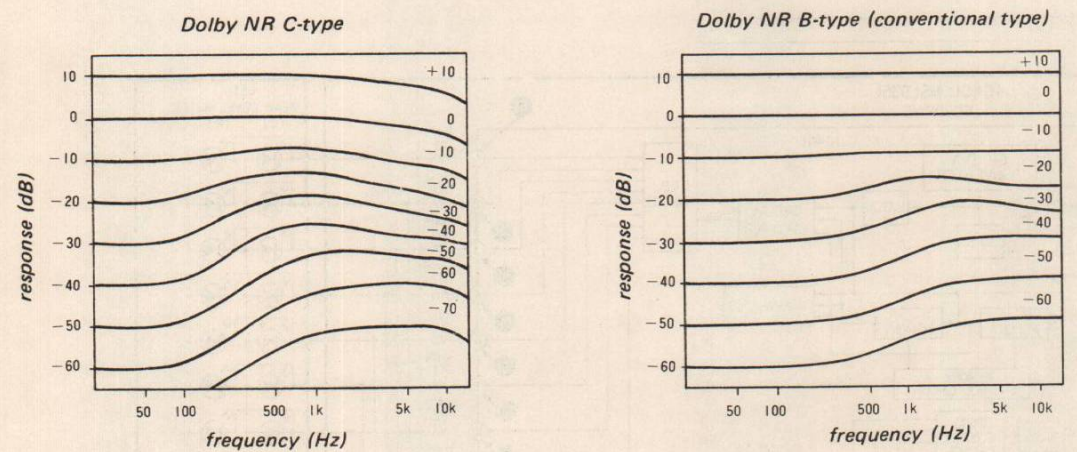

Fig. 1 Encoding characteristics
During recording, low-level high-frequency signals, which tend to be obscured by tape hiss, are boosted so that they are substantially higher in level than any tape noise. When these signals are played back, the level is lowered to the original input level, while simultaneously the level of any tape noise is reduced to the same extent. The Dolby NR B-type system thus reduces tape noise by 10 dB at 5 kHz. The C-type system reduces noise by 20 dB at 5 kHz. The Dolby NR C-type system also begins to take effect at frequencies lower than the B-type system. (Refer to Fig. 1, 2)
Therefore, during recording, it shows the encoding characteristics in Fig. 1. During playback, the opposite characteristics of the encode are shown, causing the control signal to be fed back to terminal (10) of IC1, IC51, IC2, and IC52.